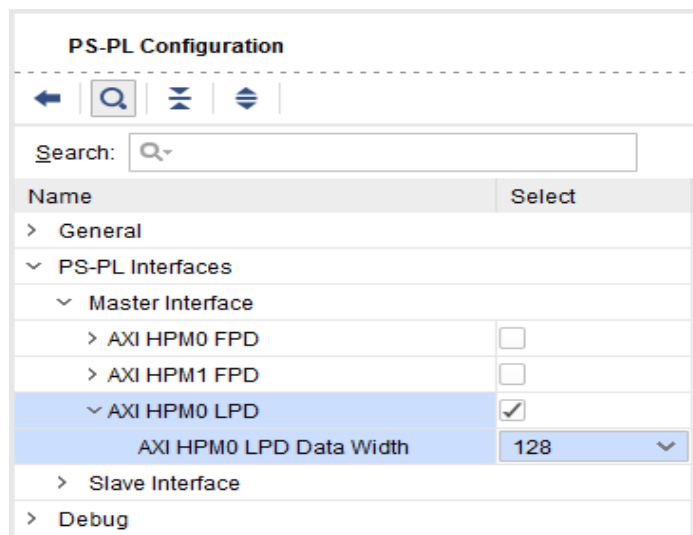

Figure 6-7: Set Data Width for AXI HPM0 LPD
- Expand **AXI HPM0 LPD** and set the **AXI HPM0 LPD Data Width** drop-down to **128 bit**, as shown in Figure 6-7.